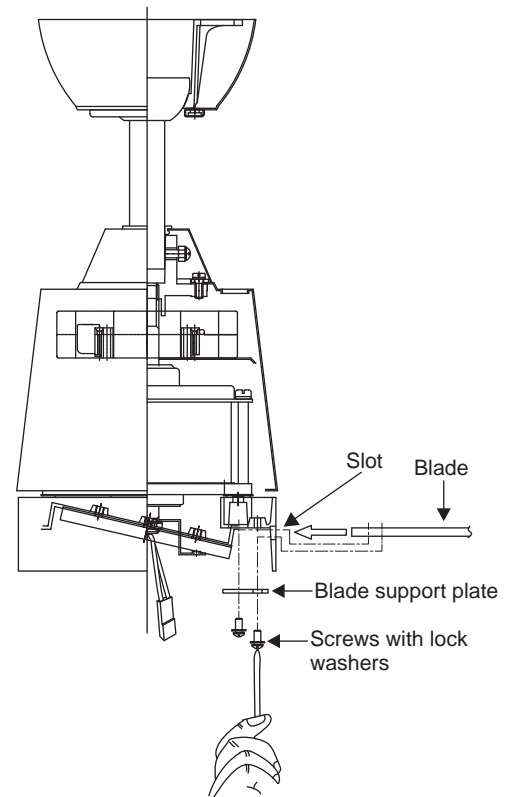

Figure 11
**Step 1.** Insert the blade through the slot in the housing. Align the holes in the blade, the blade support plate, and the fan motor assembly and secure with a blade attachment screws with lock washers. (Fig. 11)